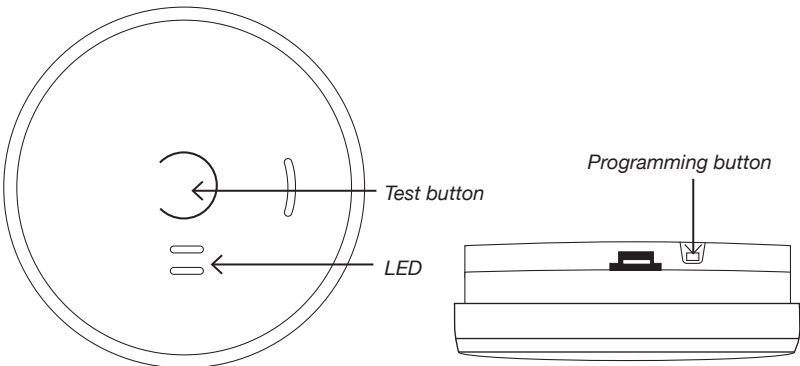

Figure 7
- Before the smoke alarm is fitted on the mounting plate, a function test must be performed (with power supply from 9V battery) by pressing in the test button on the smoke alarm, which should then emit a load pulsating signal. *See figure 7.*
- Turn on the current and then test that the smoke alarm is functioning by pressing in the test button. *See figure 7.*
1. Hold down the master device's programming button until the LED indication lights up red. The master device is now in programming mode and ready to receive the radio code from the other alarms. The master device remains in programming mode for about 30 seconds before returning to normal mode. See figure 7.